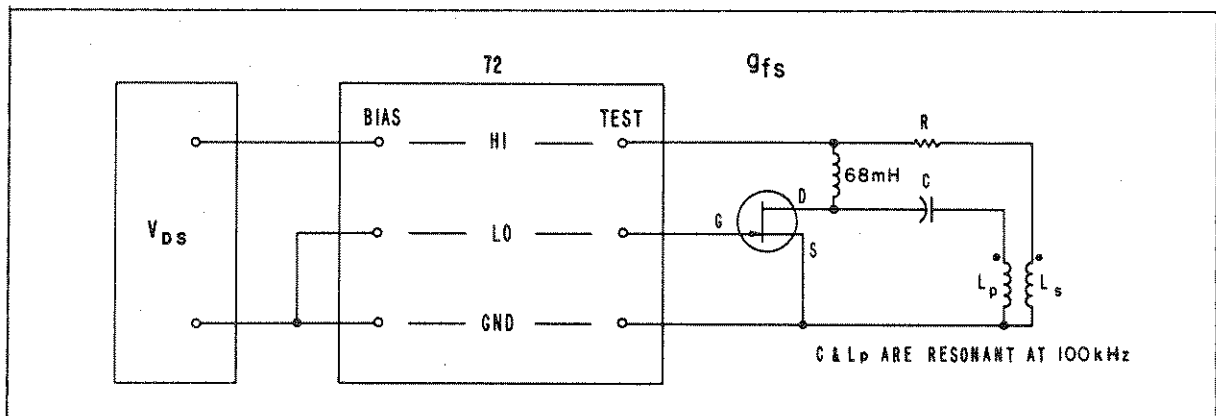

Figure 2-5. Transistor Transconductance Measurement
D. Forward Transconductance (g_{fs}). See Figure 2-5.
A network is needed that presents a low impedance to the drain, and that provides the necessary phase shift of +90 degrees. The circuit shown in Figure 2-5 satisfies these conditions. The resistor, R, is the calibrating resistor for the full-scale value of g_{fs} . Its value is readily derived. The instrument is calibrated for a high-terminal current of: